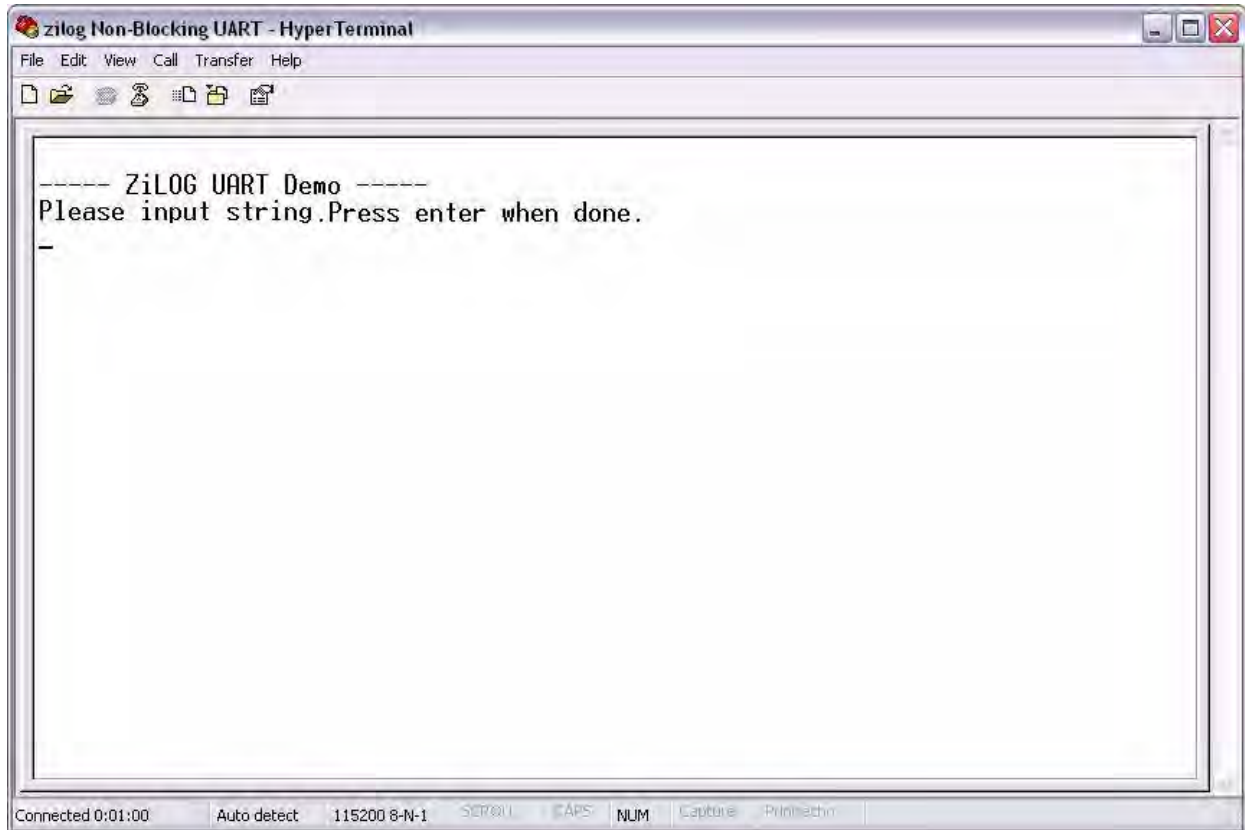

Figure 10. The User is Prompted to Enter a String
10. The HyperTerminal dialog will prompt for a user entry, as shown in Figure 10.